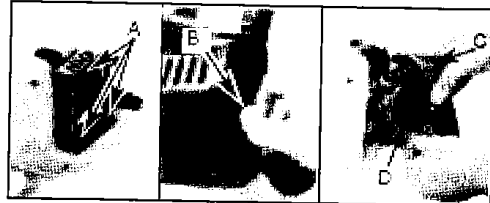

Fig. 11
1. Remove the 3 screws (A) holding the air filter housing, pull out the choke lever (B), remove housing (C) and remove air filter (D) from the housing (Fig. 11).